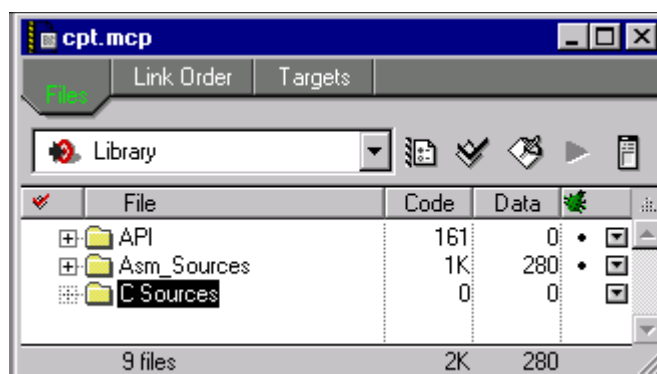

Figure 4-2. *cpt.mcp* Project
Step 1. Open *cpt.mcp* project, as shown in Figure 4-2.